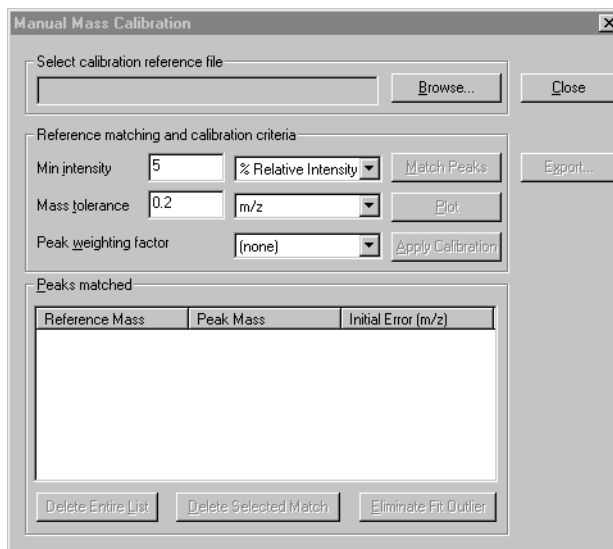

Figure 5-4 Manual Mass Calibration Dialog Box
The Manual Mass Calibration dialog box is displayed (Figure 5-4).
The Manual Mass Calibration dialog box is displayed again (see Figure 5-4 on page 5-6) with the observed mass and the reference mass you selected displayed in the Peaks Matched list.
- Click **Eliminate Fit Outlier**. The software deletes the data point from the calibration with the largest calibrated Fit Error (difference between the calibrated mass and the reference mass) as reported in the Output Window (Figure 5-4).